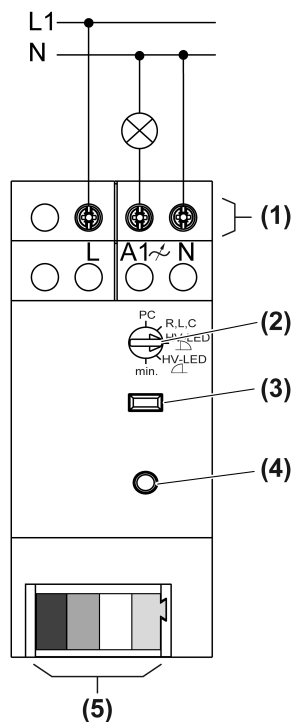

Figure 2: Connection diagram
- Connect the load according to connection diagram (Figure 2)